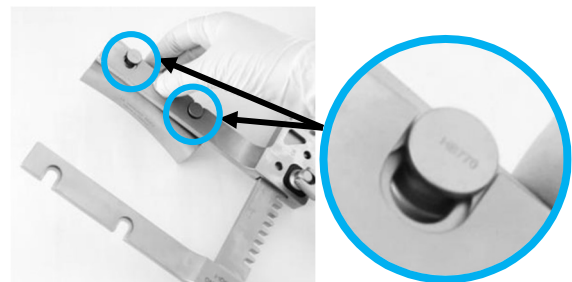

Fig. 2
Depending on the purpose of surgery and the available space for assembly, the blades can be connected to the retractor body either before (Fig. 2) or after (Fig. 3) insertion into the sternal saw gap.
- 1 By inserting the cylindrical pins into the two drill holes of the retractor arms, the blades are first connected to the retractor body and then inserted into the saw cut (Fig. 2).